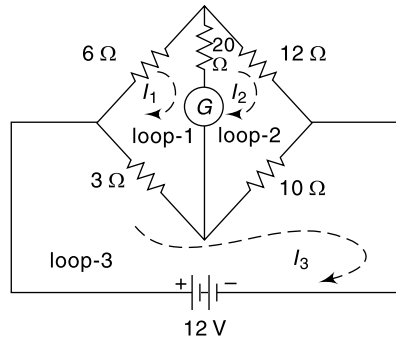

Fig. 4.50 Circuit of Ex. 4.35
4.35 In the bridge network shown in Fig. 4.50 find the current through the galvanometer having 20 Ω internal resistance. Use mesh analysis.
We first assign loops as loop 1, loop 2 and loop 3 with circulating currents I_1 , I_2 and I_3 through these loops (Fig. 4.50).